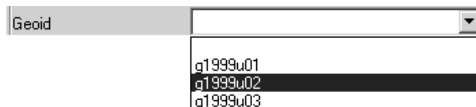

Figure 3-67. Select Geoid Model
- Select a geoid model (Figure 3-67).